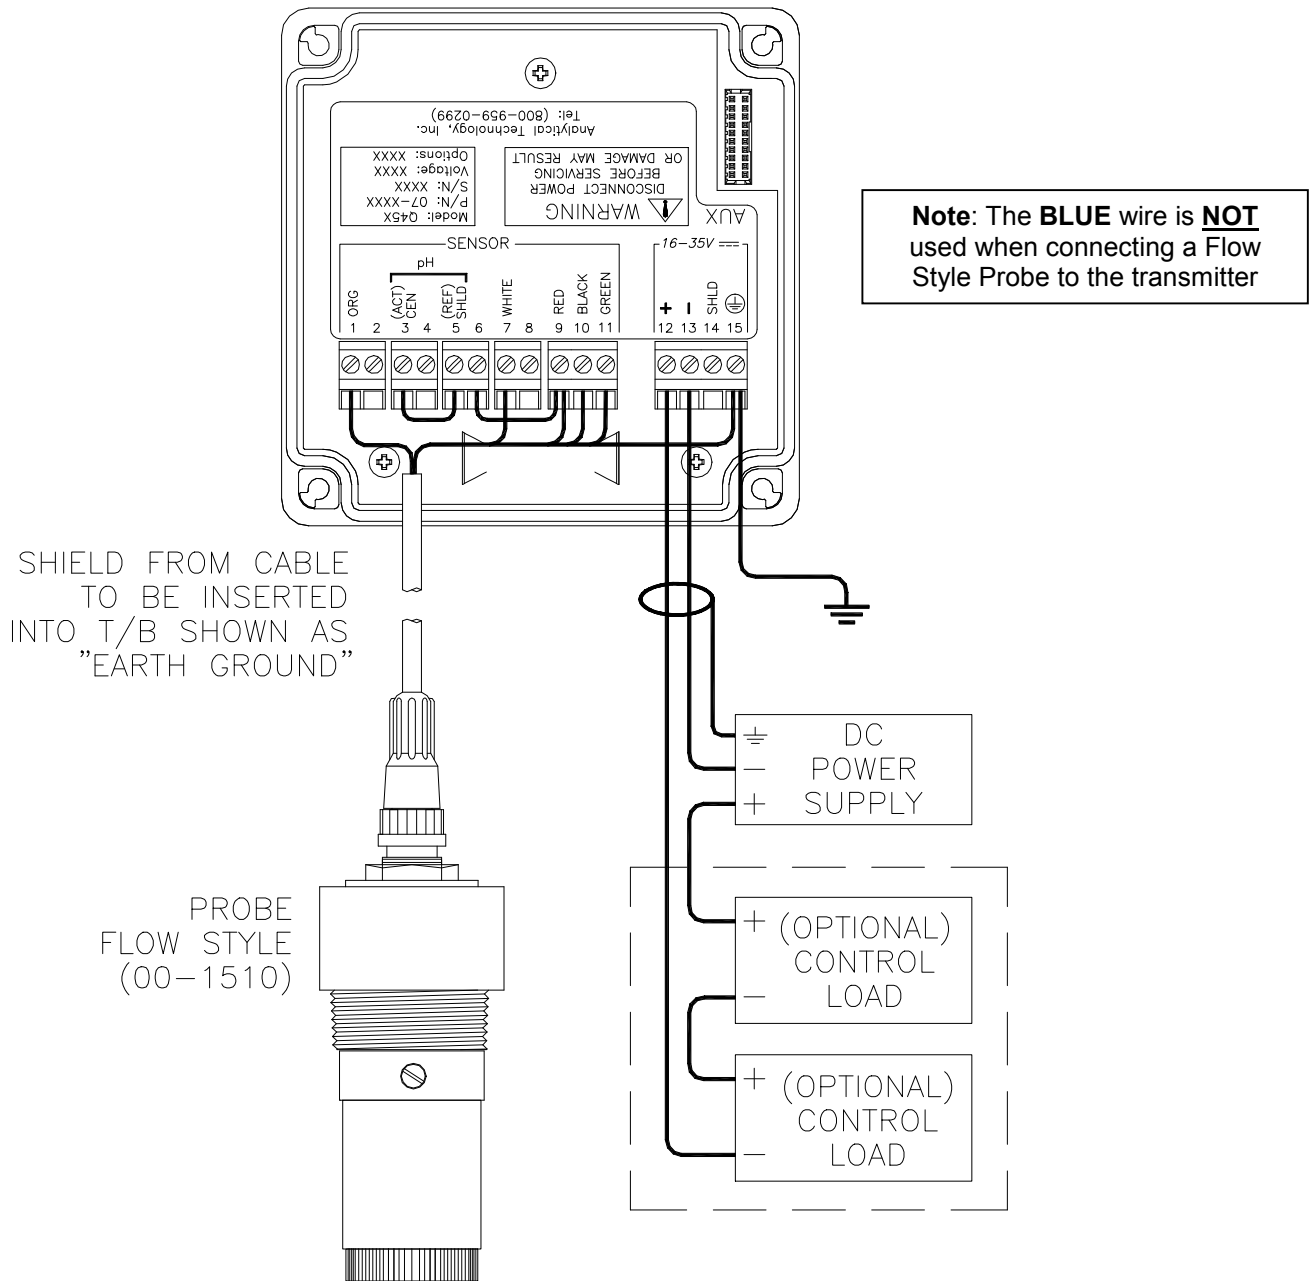

Figure 14 - Loop-Power Sensor Connection
1. Use wiring practices that conform to all national, state and local electrical codes. For proper safety as well as stable measuring performance, it is important that the earth ground connection be made to a solid ground point from terminal 15 (Figure 14). The AC power supply contains a single 100mA (115V) or 50mA (230V) slo-blo fuse. The DC powered version contains a 250 mA fuse. The fuse **F1** is located adjacent to **TB5** and is easily replaceable.
In the two-wire configuration, a separate DC power supply must be used to power the instrument. The exact connection of this power supply is dependent on the control system into which the instrument will connect. See Figure 14 for further details. Any twisted pair shielded cable can be used for connection of the instrument to the power supply. Route signal cable away from AC power lines, adjustable frequency drives, motors, or other noisy electrical signal lines. Do not run sensor or signal cables in conduit that contains AC power lines or motor leads.